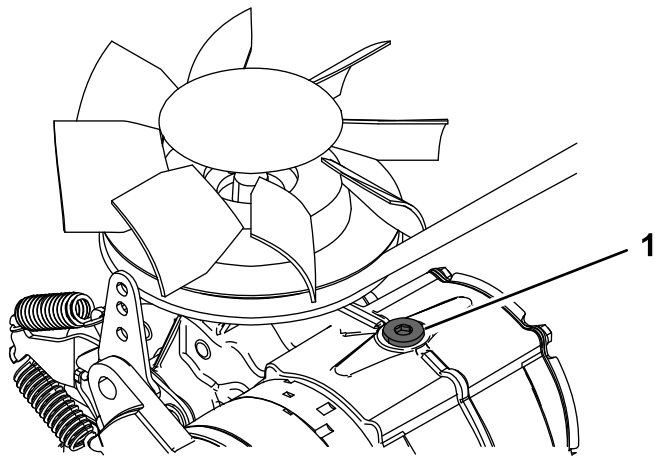

Figure 49
10. Loosen the vent plug in each transmission until loose (Figure 49).